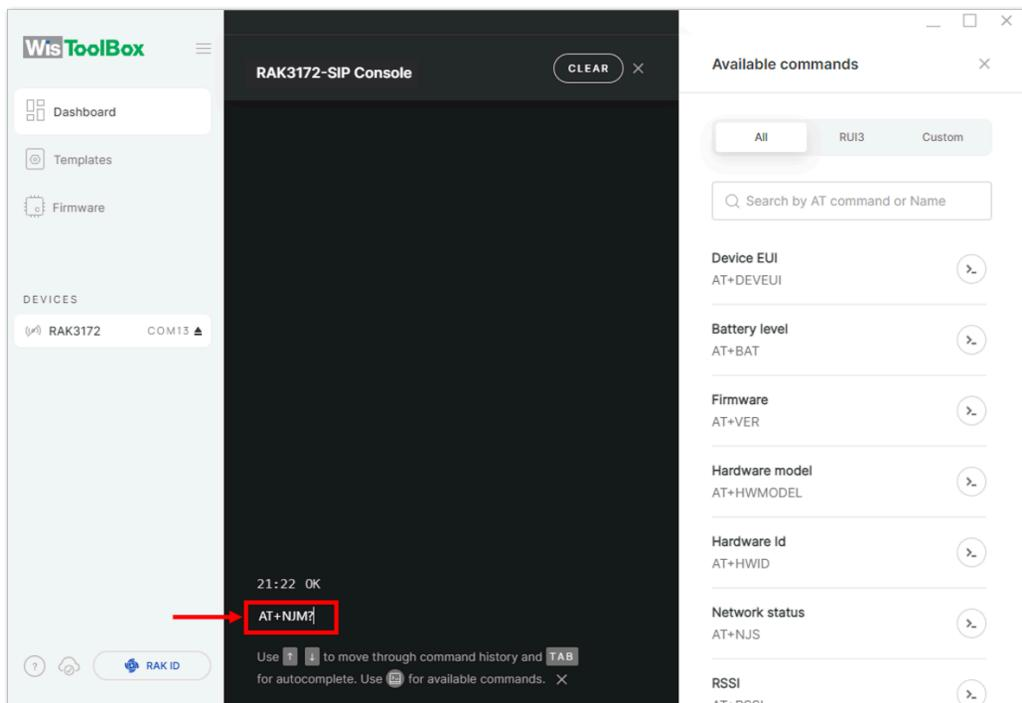

Figure 164: Setting up your Console
8. Then configure the LoRaWAN join mode to **ABP**. You can check what parameter you will input by typing **AT+NJM?** and then **Enter** into the console terminal. For **ABP**, you should input **AT+NJM=0** and then press **Enter** as shown in **Figure 164**.